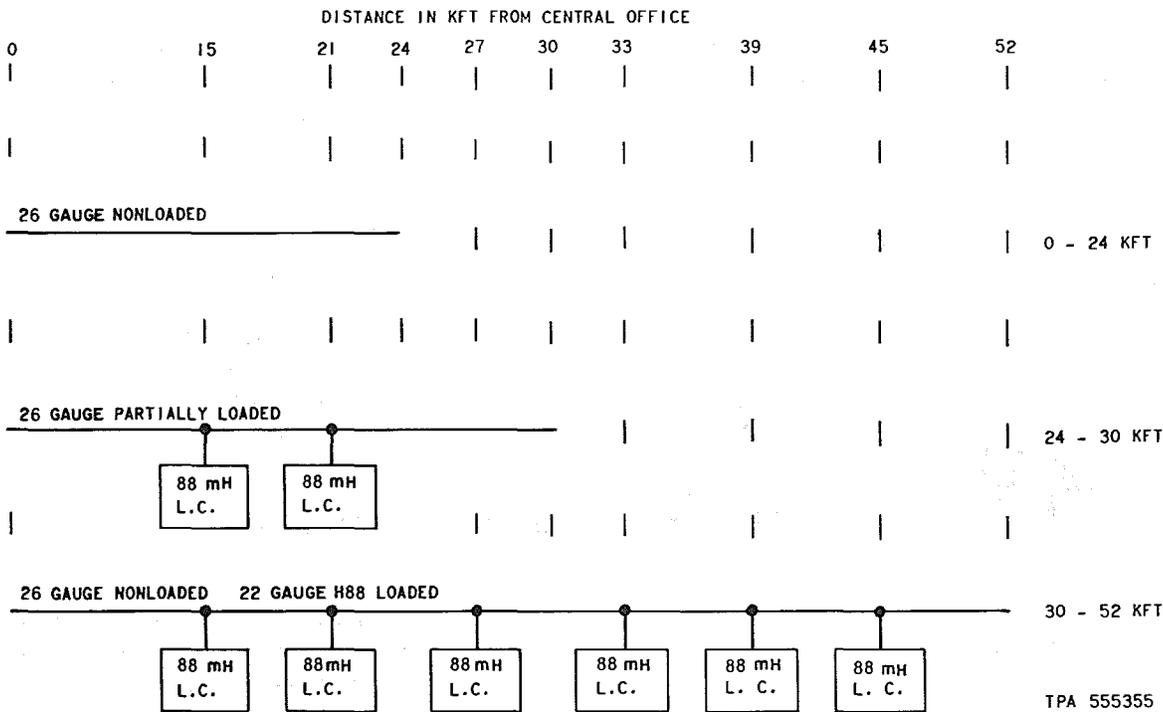

Fig. 3—Unigauge Design Outside Plant
- (c) 26-gauge nonloaded cable for the first 15 kft and 22-gauge, H88 loaded cable for the remaining distance when the length of the link is greater than 30 kft (Fig. 3).